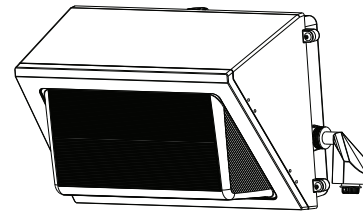

Fig. 19
4. Thread the CEA-RDB into the KO hole until the gasket is compressed and the bottom of the CEA is pointing down. (See Fig. 19)